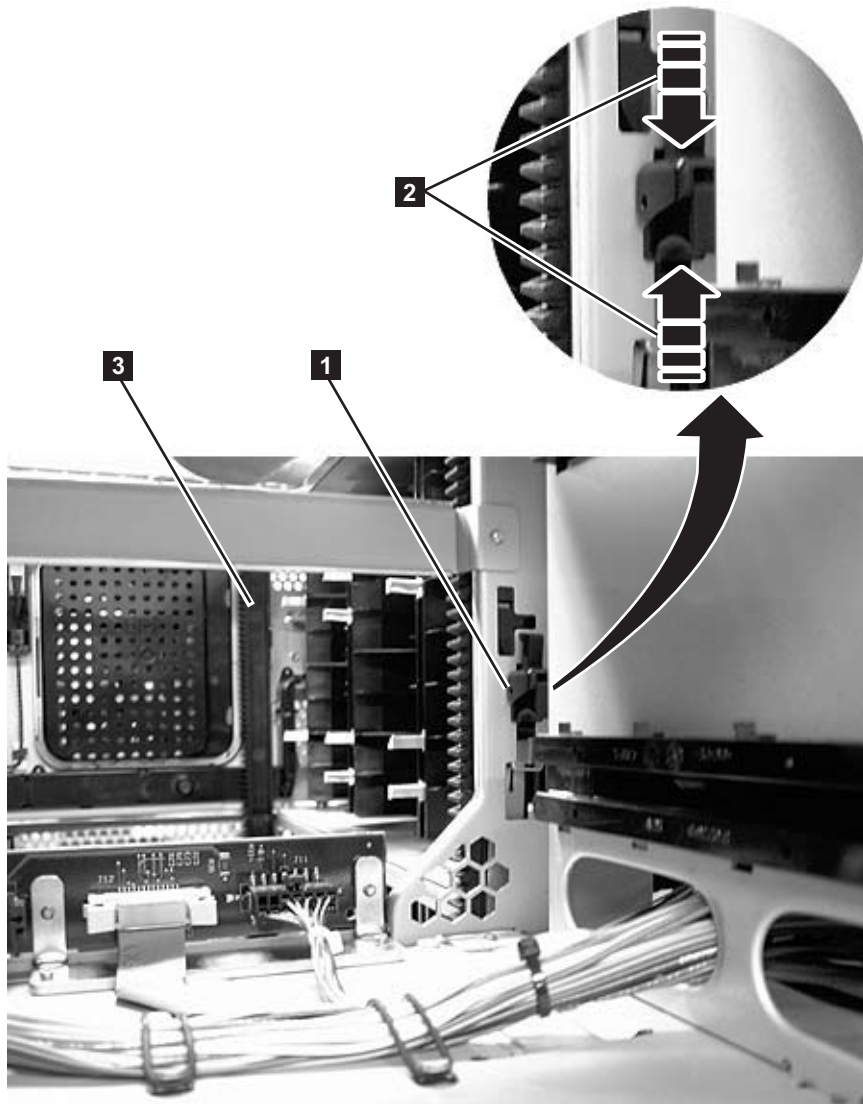

Figure 12-10. Gear rack
In order for the picker to move from one unit to the next in a multi-module library, the front ( **3** in Figure 12-10 on page 12-14) and rear ( **1** in Figure 12-10 on page 12-14) gear racks in the control module must be properly aligned with the gear racks in the expansion module.
Verify that the front (**3** in Figure 12-10) and rear (**1** in Figure 12-10) gear racks are properly aligned and positioned.
- In a control module, verify that the gear racks are in the down position. Pinch the gear rack locking mechanism (**2** in Figure 12-10) and push the gear rack down. Ensure that the lock is not engaged in the hole in the frame.
- Verify that the gear racks are in the down position. Pinch the gear rack locking mechanism (**2** in Figure 12-10) and push the gear rack down. Ensure that the lock is not engaged in the hole in the frame.
1. Slightly push up and pinch the gear rack locking mechanism (**1** in Figure 12-10 on page 12-14) to unlock the gear rack in the control module.
2. While pinching the gear rack locking mechanism (**2** in Figure 12-10 on page 12-14), push the gear rack down until it aligns with the gear rack in the expansion module, then release your hold on the locking mechanism.